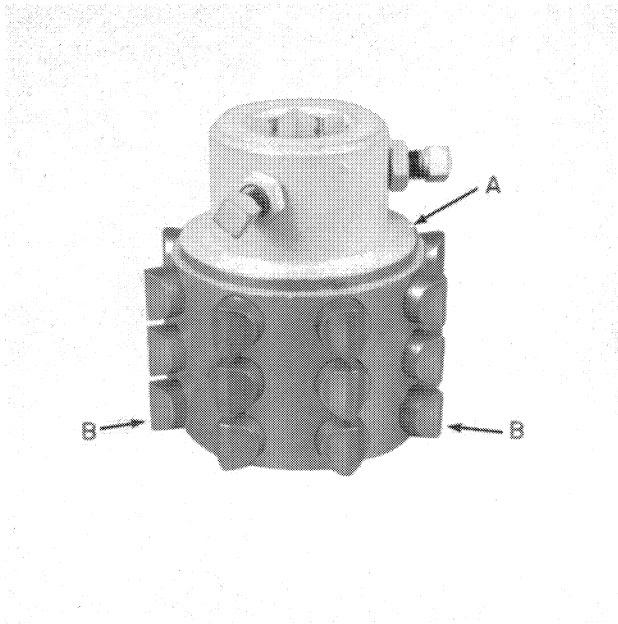

Figure 2-16
WARNING: THE SLIP CLUTCH SPRINGS AND PINS, B, FIGURE 2-16, ARE UNDER EXTREME PRESSURE. USE CAUTION WHEN DRIVING PIN CYLINDER, A, OUT OF THE HOUSING TO PREVENT INJURY.
6. Apply a light coating of multipurpose grease to the sides of each pin in the pin cylinder assembly, A, Figure 2-16.